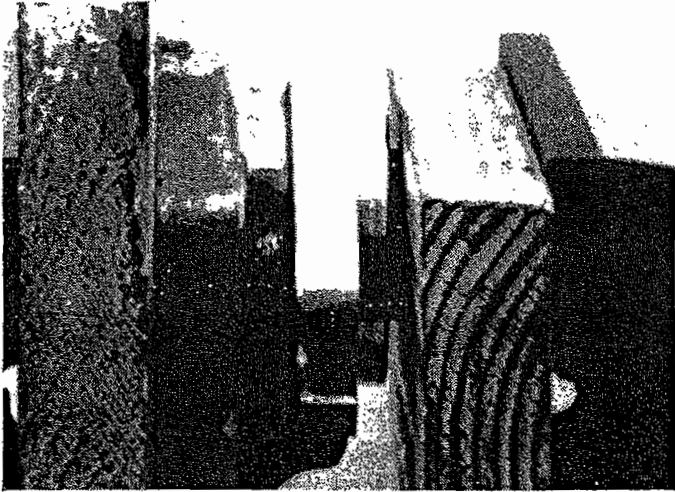

Fig. 4
7. Center the seal over the seal bore with the metal face of the seal facing the movable jaw. Place a clean block of wood against the seal and tighten the vise slowly until the wood block is against the flange. Make sure the seal starts straight and moves straight into the bore. (Fig. 4)